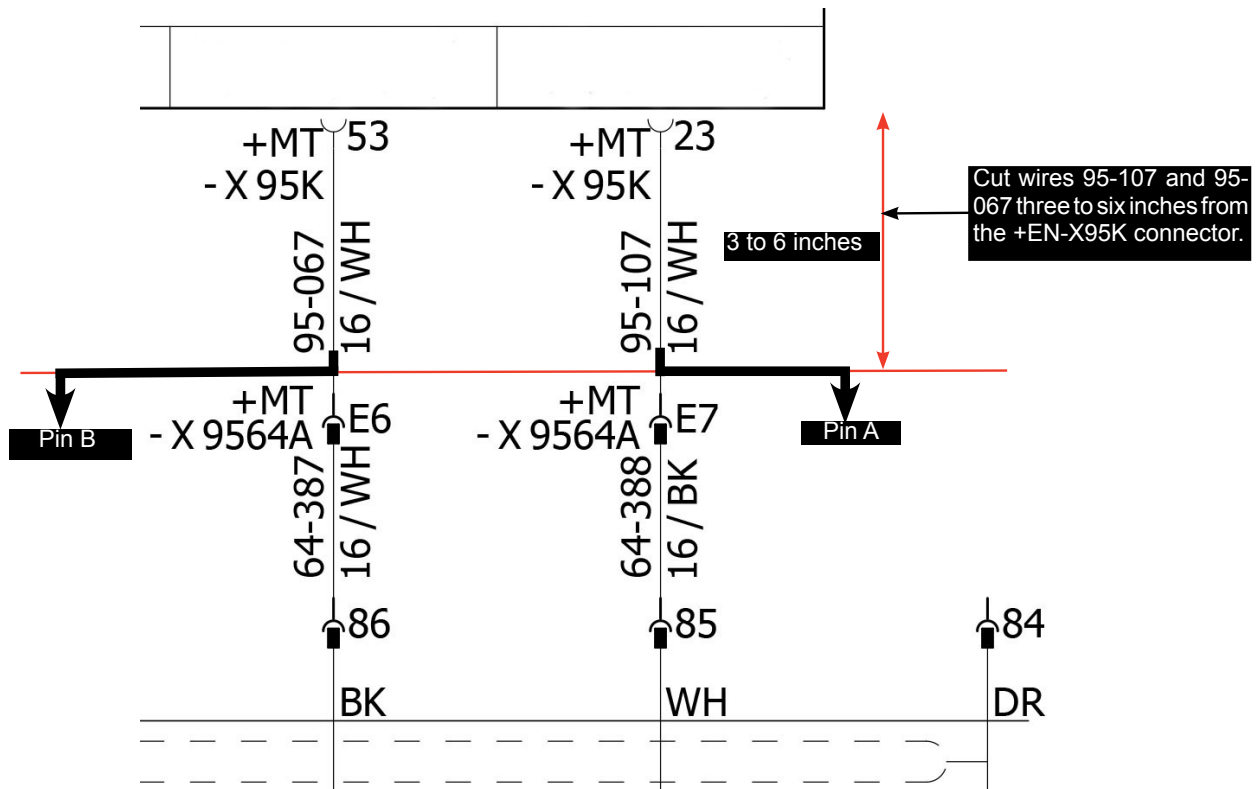

Figure 11 - Wire Diagram: Cut wires 95-107 and 95-067 Three to Six Inches from the +MT-X95K Connector.
1.12. Cut wires 95-107 and 95-067 three to six inches from the +MT-X95K connector (see Figure 11).